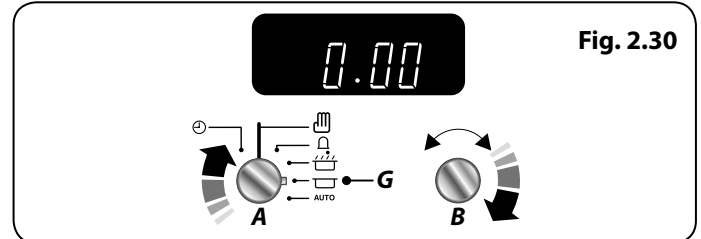

Fig. 2.30
2. Turn the **Timer (A)** knob to the **Stop Time (G)** setting (**Fig. 2.30**). The display will show the current time of day plus the 'cook time' you just set.